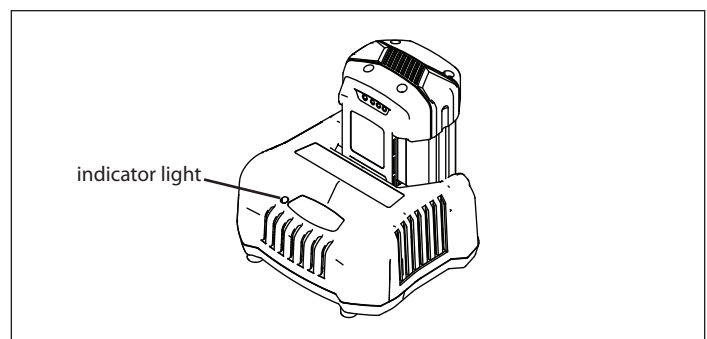

Figure 5
5. The charge indicator light should blink green. **SEE FIGURE 5.**